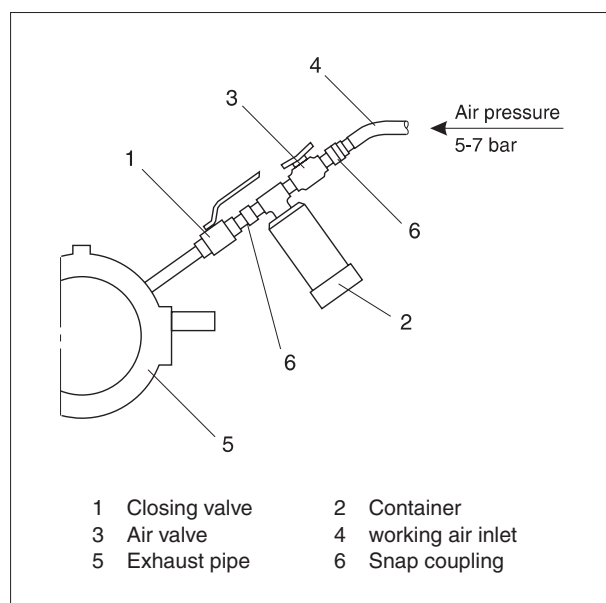

Fig 1 Arrangement of dry cleaning of turbocharger - Turbine.
**2)** Before connecting the "blow-gun" open the closing valve (1), see fig 1 and check whether there is free passage.
**3)** Fill cleaning granulated substance into the container (2) for turbocharger type: